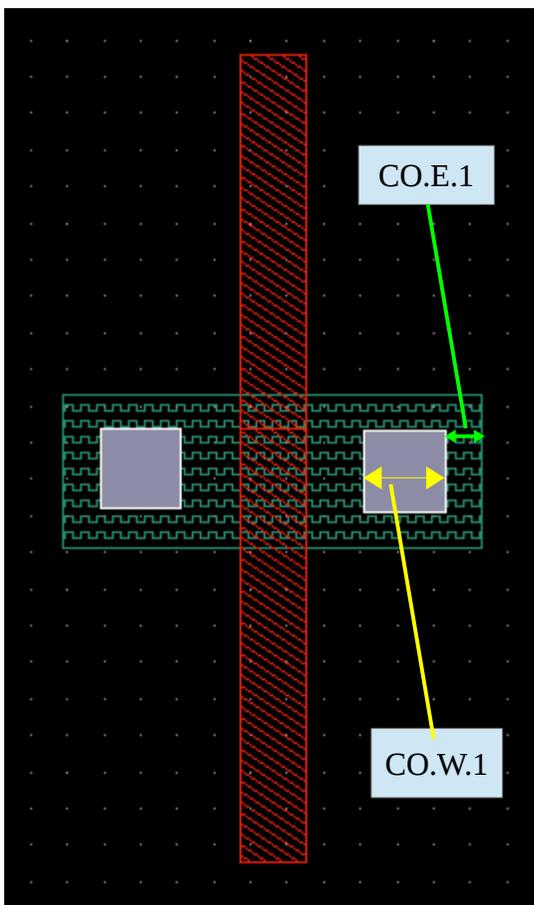

Fig. 3: Create the poly1, active, and contact layers.
3. Select the “active dwg” layer; draw a rectangle with $X = 1.14 \mu\text{m}$ and $Y = 0.42 \mu\text{m}$ as shown in Figure 3.
5. On page 28, find the minimum clearance between active (OD) and contact (CO) (**CO.E.1**), place the contacts as shown in the Figure 3.
10. Select the “**pplus dwg**” layer and draw a rectangle as illustrated in Figure 3. Run DRC and confirm that **PP.E.2** is not violated.